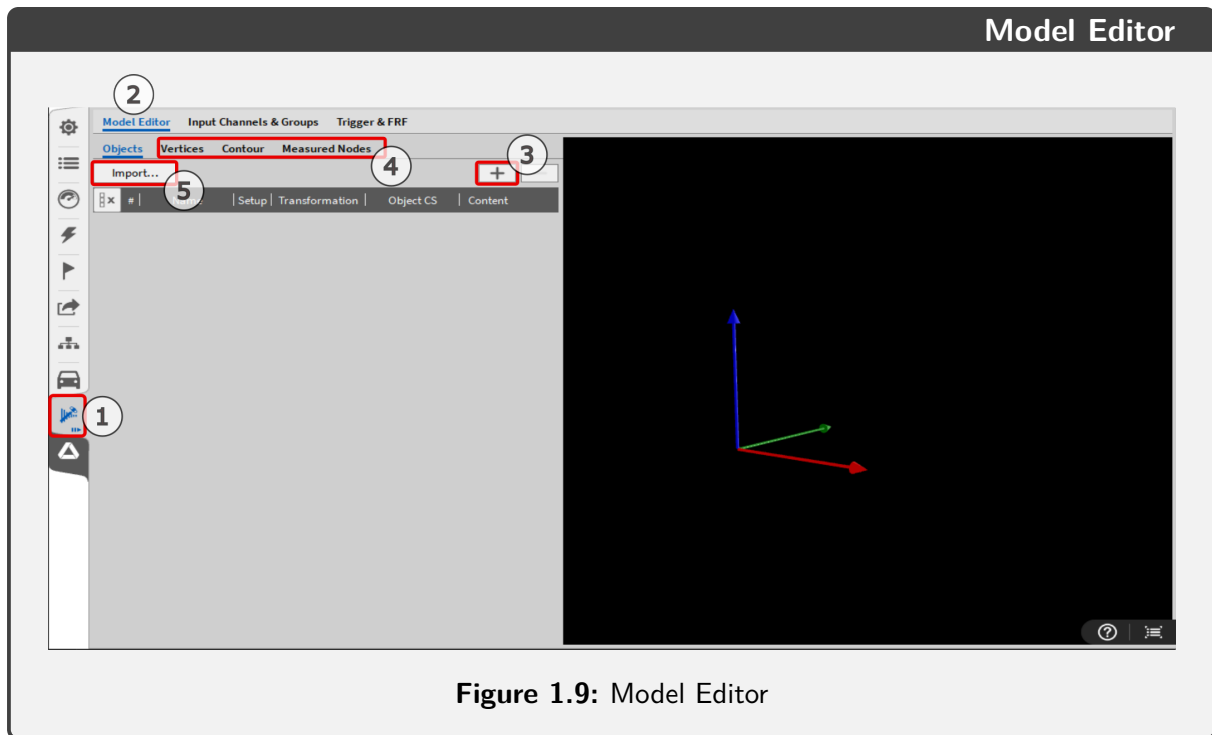

Figure 1.9: Model Editor
To create a Modal Test, go to the channel list and use the (+) button ① on the bottom left of the channel list to add "Modal Test", found in the "Advanced Math" category. This adds the Modal Test Channel ② in the channel list and the Modal Test tab ③ right above the OXYGEN setup tab and forwards you to the Model Editor. (Figure 1.9)
The next page describes an alternative method, which utilizes selected channels to create a test object. In case you didn't select channels for the Modal Test setup, skip to the definition of the test object in the Model Editor in Figure 1.9.